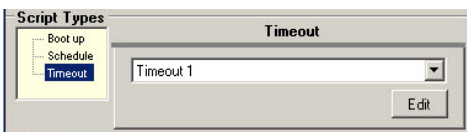

**FIG. 72** Schedule Properties window
2. Click **Add**. The Schedule Properties window opens (FIG. 72).